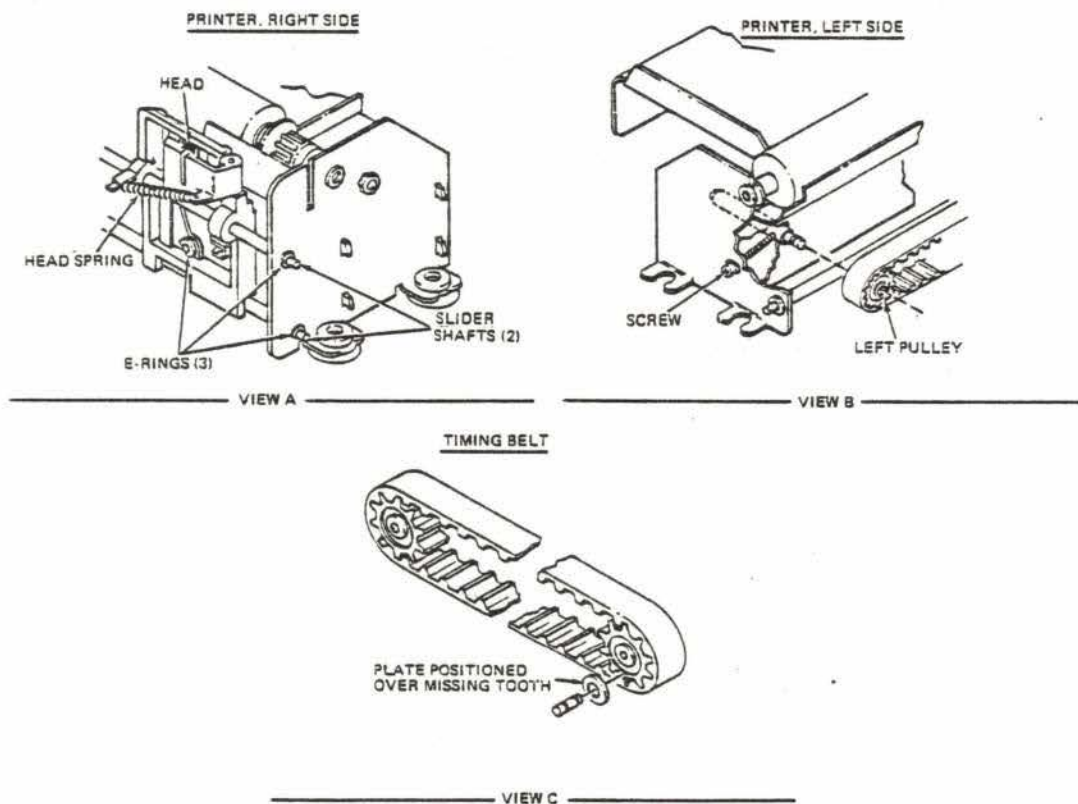

Figure 7-5. TIMING BELT REPLACEMENT
7.5 TIMING BELT (See Figure 7-5)